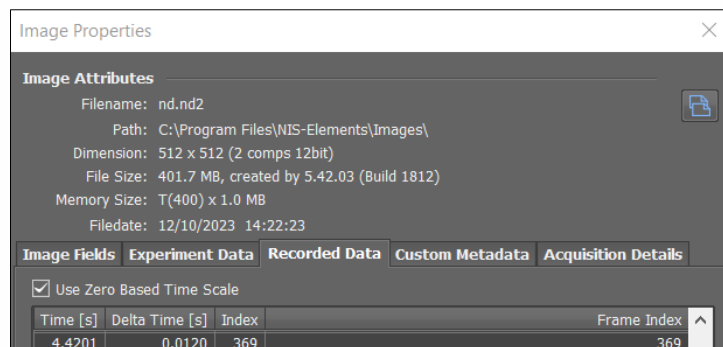

Figure 15: Image Properties window
3. In the 'Image Properties' window (Figure 15), select the 'Recorded Data' tab.